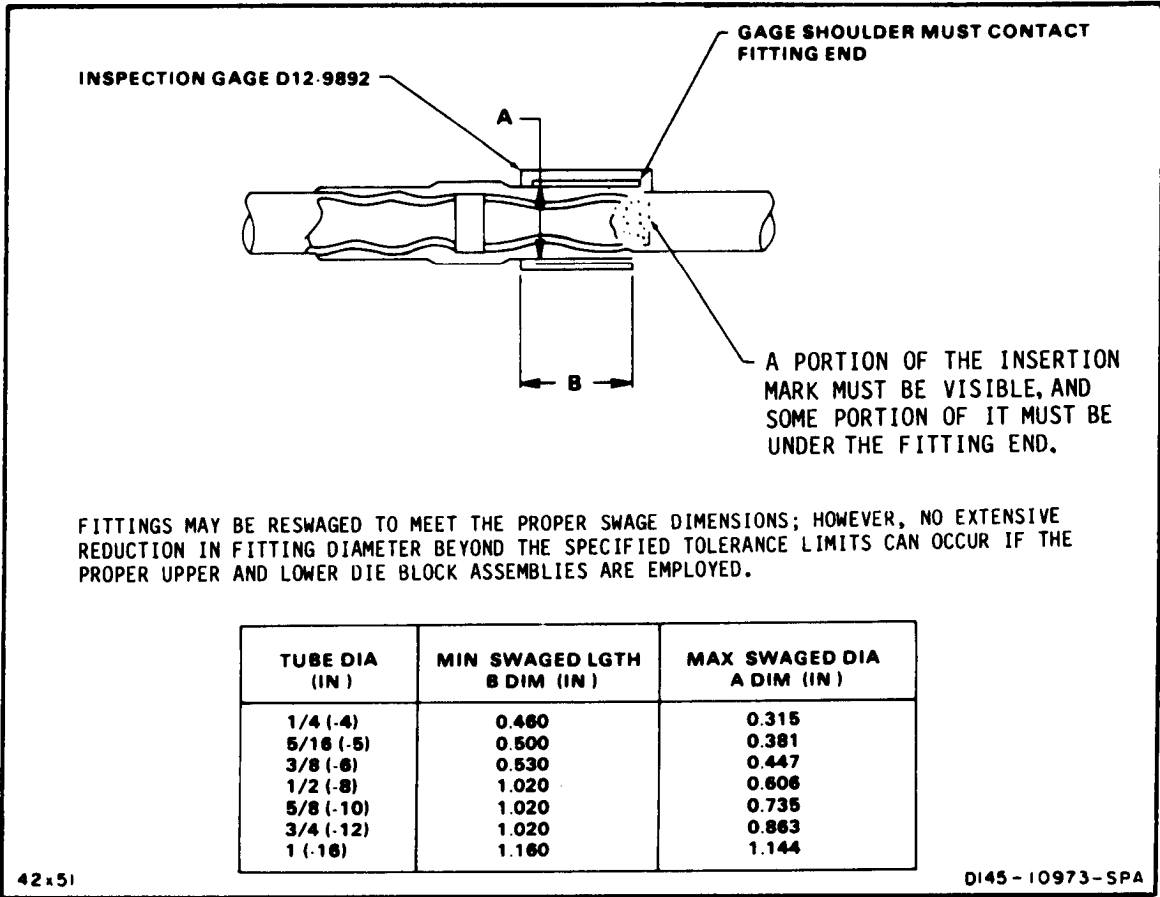

Figure 2-10. Measuring after-swage dimensions.
- 30. Inspect the swaged end with the appropriate size go/no-go inspection gage according to the illustration in Figure 2-10. The fitting may be reswaged only once if the gage does not fit (repeat steps 24 through 30).